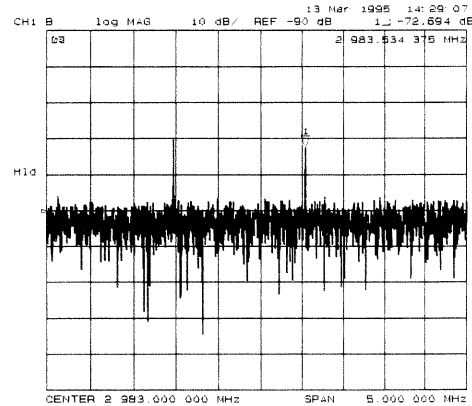
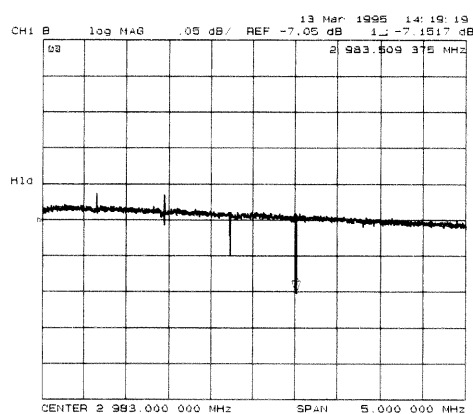
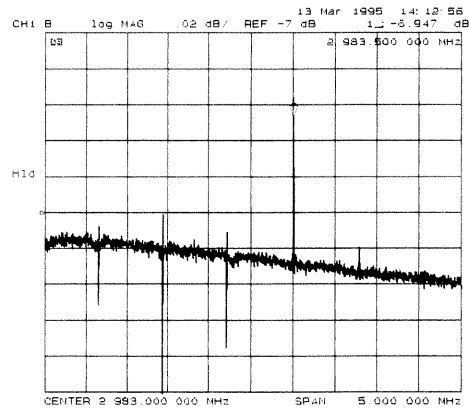

Figure 3-12. Typical Display of Spurs with a Filter
Figure 3-13. Typical Display of Four Spurs without a Filter
Figure 3-14. Target Spur Is Fourth in Display of Five Spurs
4. Press **NEXT** repeatedly. Watch the trace on each sweep and try to spot the target spur. With the filter, the target spur will be one of two obvious spurs (see Figure 3-12). Without the filter (not recommended), the target spur will be one of four or five less distinct spurs as shown in Figure 3-13 and Figure 3-14. When the center frequency increases to 2994.999 MHz, and you have not “selected” the target spur, Cav Osc Cor FAIL will appear on the display.
5. Press **EXECUTE TEST YES CONTINUE** and the other softkeys as required to observe and mark the target spur. The target spur will appear to the right of a second spur, similar to Figure 3-12.
The target spur usually appears as one of a group of four evenly spaced spurs as in Figure 3-13. The target spur is on the right most spur (fourth from the left). On any particular sweep, one, any, or all of the spurs may be large, small, visible, invisible, above or below the reference line.
On occasion the largest spur appears as one of a group of five evenly spaced spurs as shown in Figure 3-14. The target spur is again the fourth from the left (not the fifth, right-most spur).